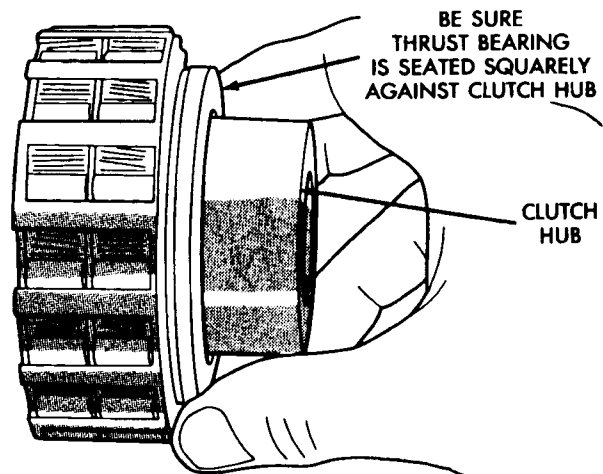

Fig. 49 OVERRUNNING CLUTCH THRUST BEARING Installation
(10) Install thrust bearing on overrunning clutch hub (Fig. 49). Use petroleum jelly to hold bearing in place during installation. **Bearing fits one way only. Be sure bearing is seated squarely against hub. Reposition bearing if it does not seat squarely.**